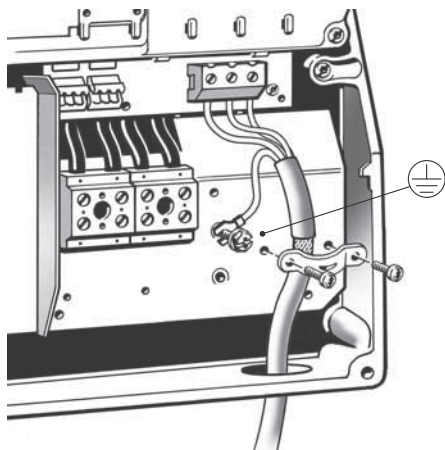

Fig. 159 Motor connection, B2
1. Connect the earth conductor to terminal 99 (PE). See fig. 159.
2. Connect the motor conductors to terminals 96 (U), 97 (V), 98 (W).